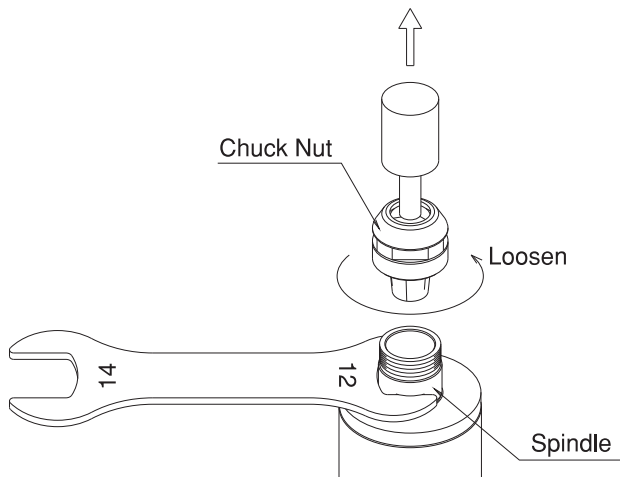

Fig.4
- ① Remove the cutting tool according to 4. Changing Tools procedure above and remove chuck nut assembly. (Fig.4)